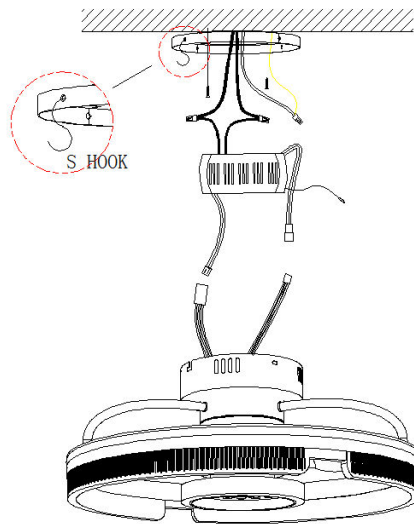

Figure 2
2. For the Wood Ceiling: Mark the location for the ceiling fan first, secure the mounting bracket to the building structure with four wood screws provided.(Fig.2)
(Fig. 2)
3. Connect the ceiling fan live wire and Neutral line with the power cable. (Figure 2)